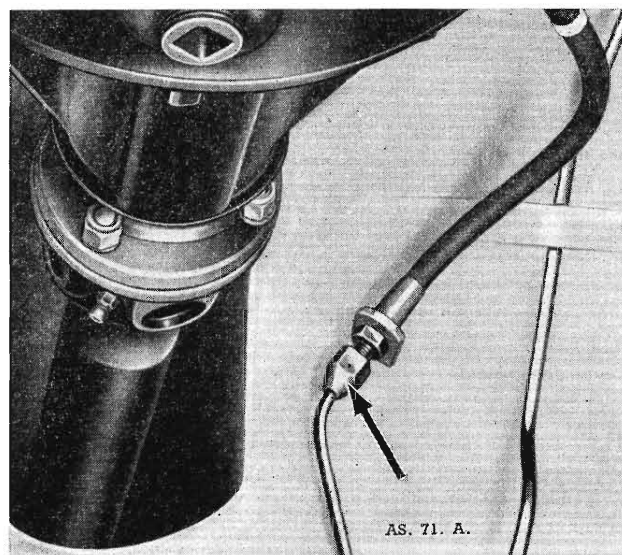

Fig. H.2. Showing the position of the brake hydraulic pipe union which must be disconnected when removing the back axle.
- (7) Working from under the car, unscrew the four self-locking nuts and remove the bolts (U.N.F.) securing the propeller shaft flange to the axle pinion flange.
- (8) Disconnect the hydraulic brake pipe at the main union just forward of the differential housing (Fig. H.2).
- (9) After ascertaining that the weight of the axle is fully on the jack, unscrew and remove the shackle pins.
- (10) Lower the axle and withdraw it from the car.